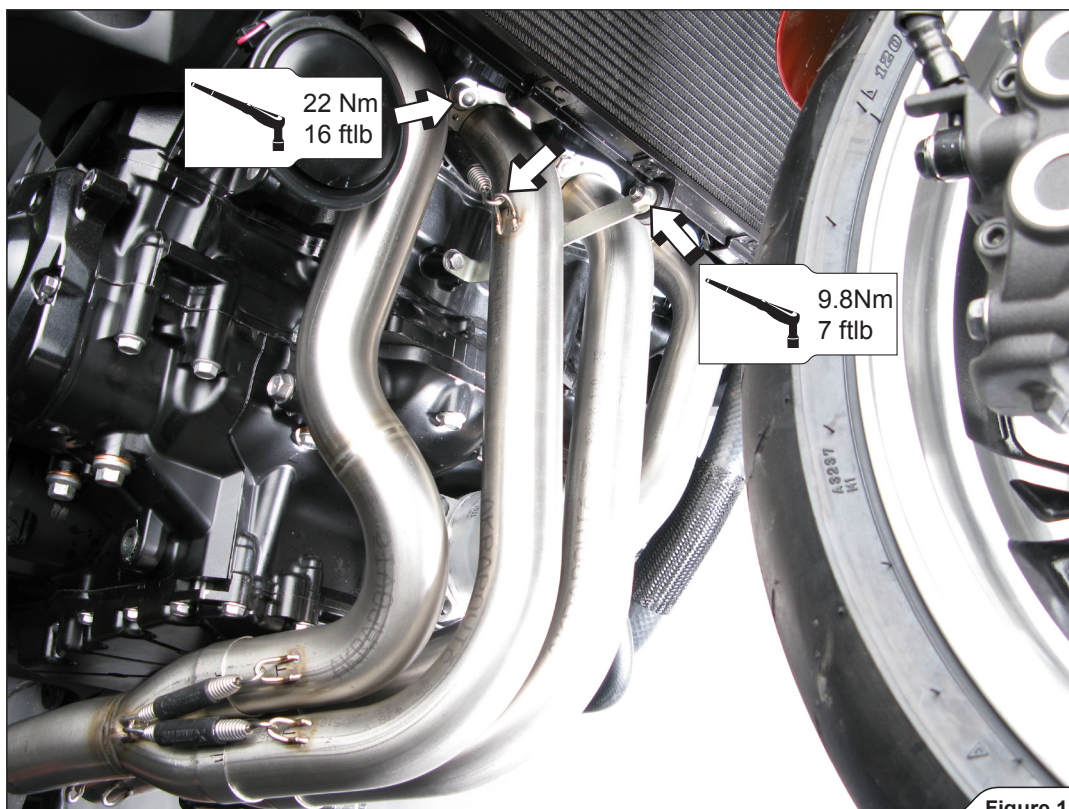

Figure 18
2. Insert the header tubes (assembled with collectors!) all the way into the sleeves, attach the springs and tighten the flanges and radiator bracket to a specified torques (**Figure 18**).